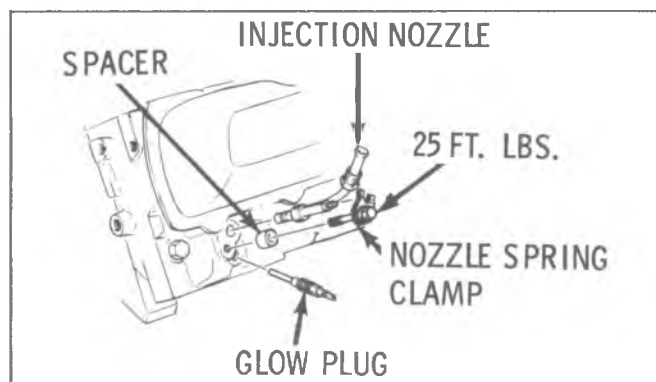

Fig. E-37—Injection Nozzle Installation
2. Remove protective caps then install injection nozzle and spring clamp and spacer. Torque bolt to 25 ft. lbs. (Fig. E-37)